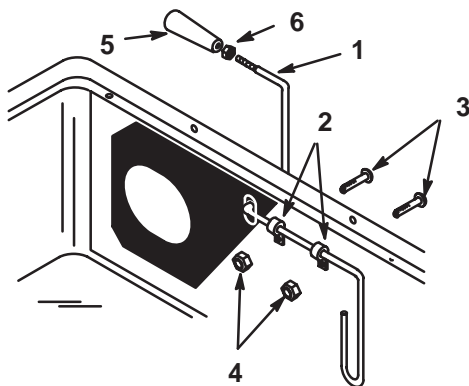

Figure 7
1. Slide threaded end of indicator rod through two clips, then rubber seal and slot in cover(Fig. 7).
2. Secure clips to the cover with (1¼" x 5⁄8") bolts and nuts (Fig. 7).
3. Thread jam nut and handle completely onto thread end of indicator rod. Rotate handle so you can read decal from operators position then tighten jam nut to secure (Fig. 7).